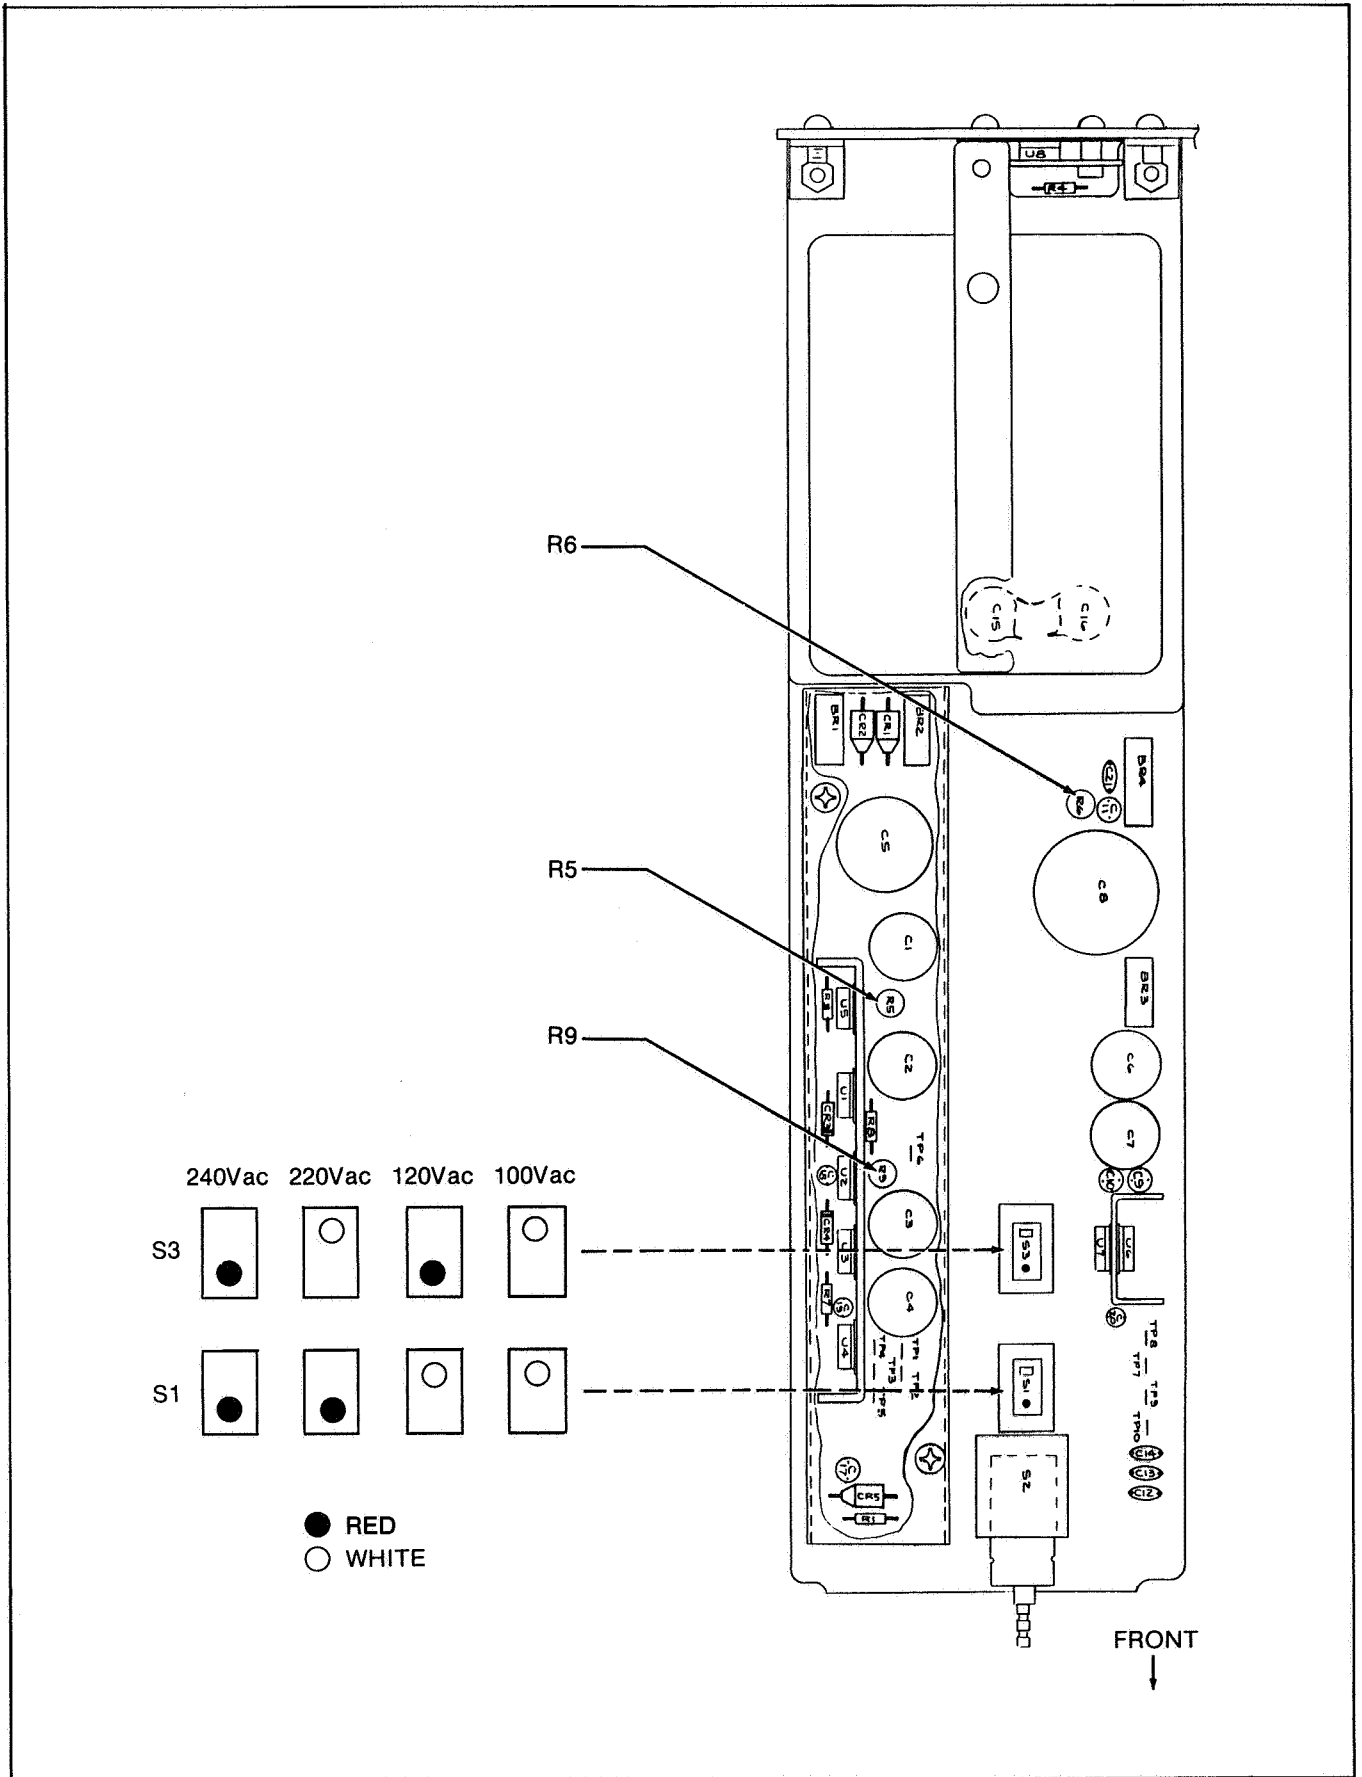

Figure 4-1. Power Supply Settings
2. The Line Voltage Selection switches are located in the left front of the instrument, just behind the main power control. Referring to Figure 4-1, set these two switches to indicate the desired line voltage (dot/switch pattern).